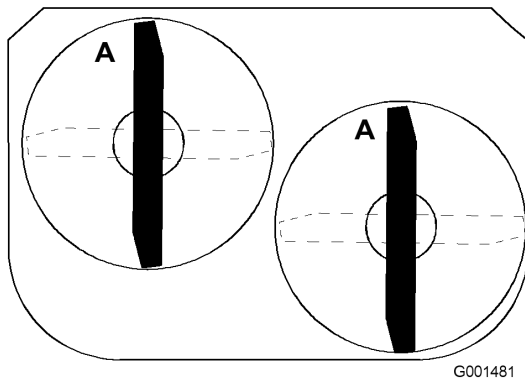

Figure 56
1. Rotate the blades until the ends face forward and backward (Figure 56).